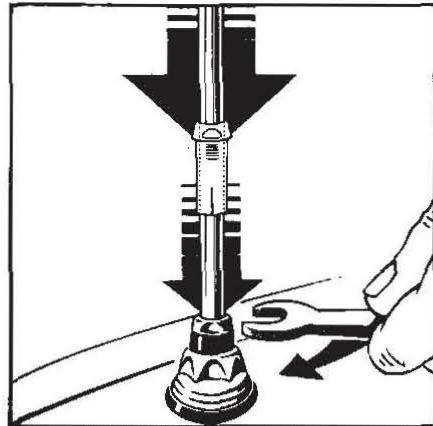

FIG. 5
3. With underpanel fully closed, release the rack cable brackets (Service Bulletin JD 05/85 Item 38, Fig. 5) and lift the brackets clear of the mounting studs.